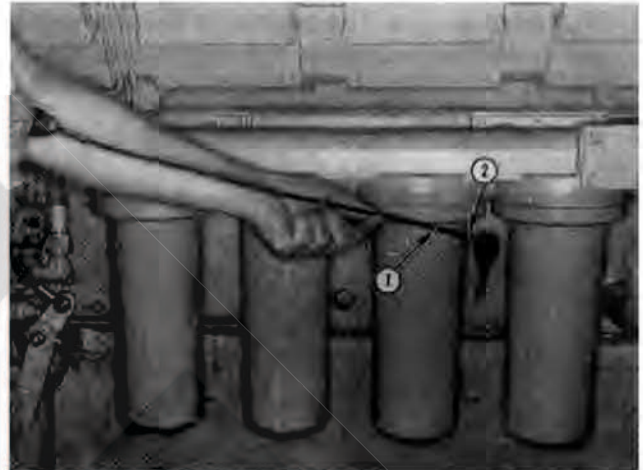

Fig. 2-1. Checking engine oil level
1. Check the oil level with the dipstick oil gauge located on the engine. Fig. 2-1. For accurate readings, the oil level should not be checked for approximately 15 minutes after the engine is shut-down. Keep the dipstick with the oil pan with which it was originally shipped. Keep the oil level as near the “H” (high) mark as possible.